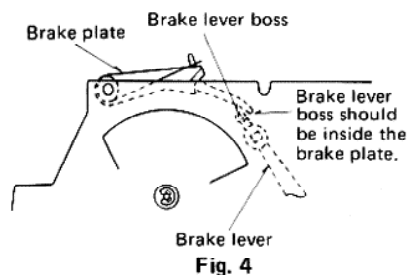

Fig. 4
- (1) Turn the shaft to rotate the main gear until no remaining of the gear.
- (2) The brake lever boss of the lift base should be inside the brake plate (cuing up). (Fig. 4)